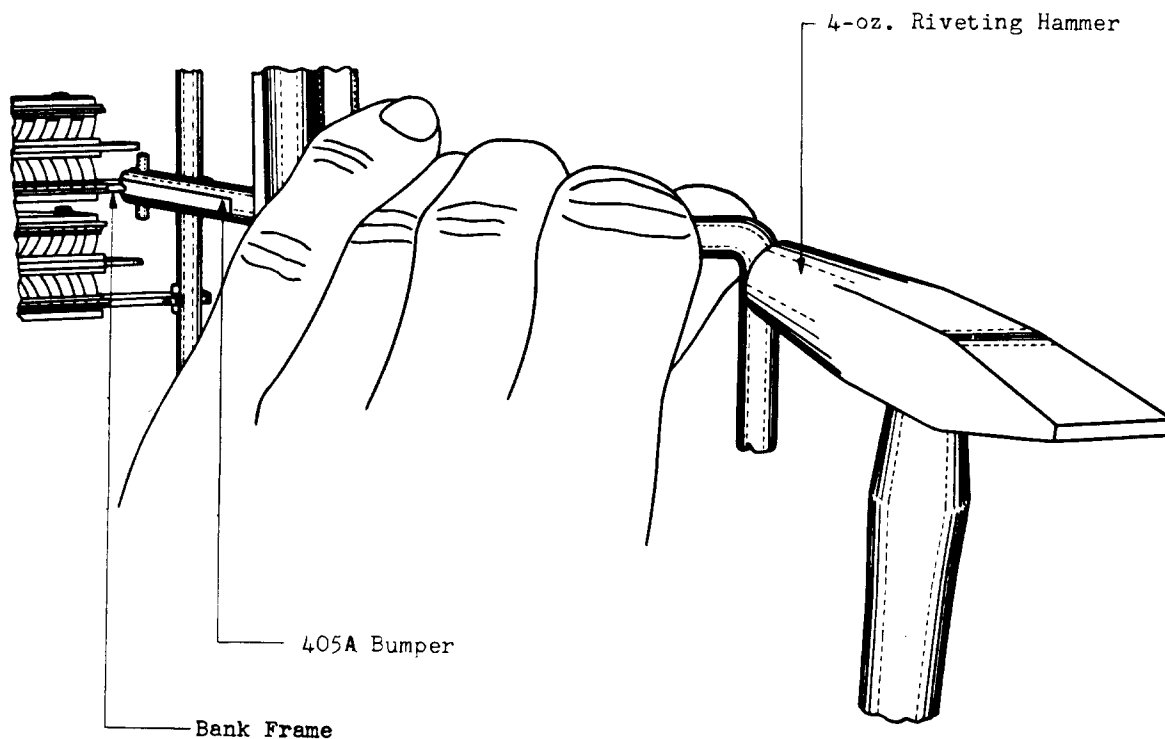

Fig. 16 — Adjusting for Plunger Tip and Bank Comb Tip Clearance
- (3) If clearance cannot be obtained by adjusting the bank comb, place the No. 405A bumper against the bank frame as shown in Fig. 16 and tap it lightly away from the switch with the 4-ounce riveting hammer.
- (4) If neither of these adjustments corrects the trouble, readjust the plunger stroke as covered in 3.21-3.22.
- (5) Where several plungers on one half of a shelf rub on the bank comb teeth, either at one end of the comb or at both ends, it is an indi-